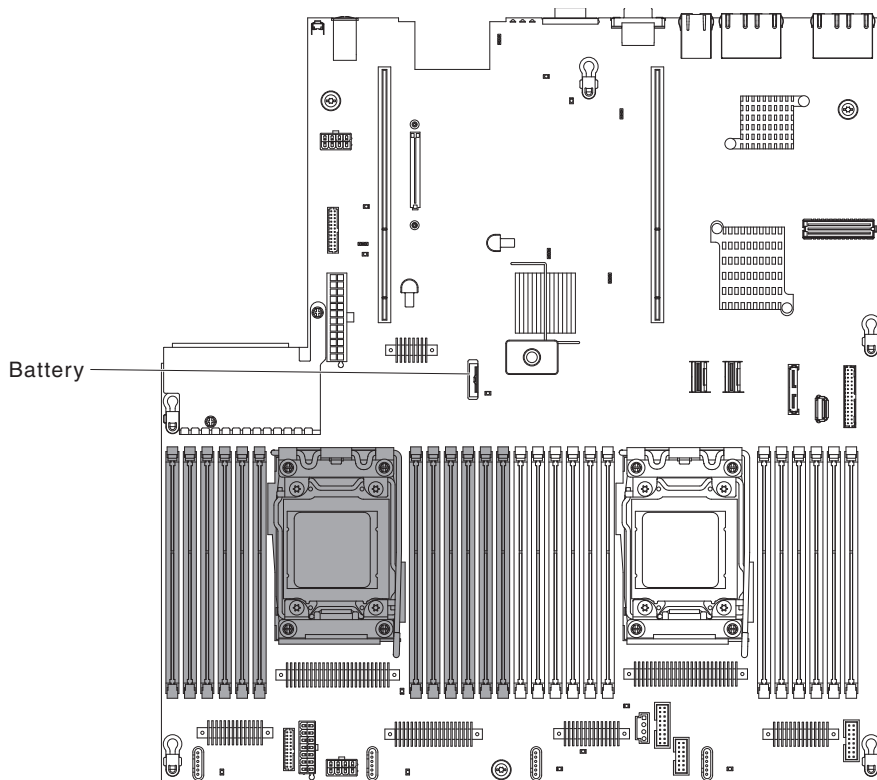

Figure 190. Location of the SAN Volume Controller 2145-DH8 CMOS battery holder
2. Locate the battery on the system board, as shown by Figure 190 on page 230.